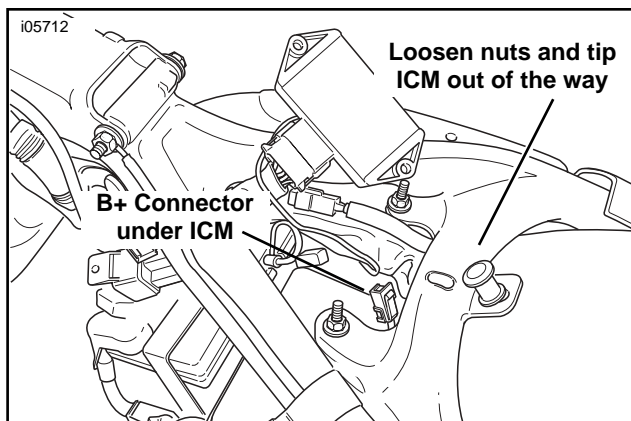

Figure 1. Ignition Control Module & B⁺ Connector
3. See Figure 1. Loosen nuts on the Ignition Control Module and tip the module out of the way to gain access to the B⁺ Connector.